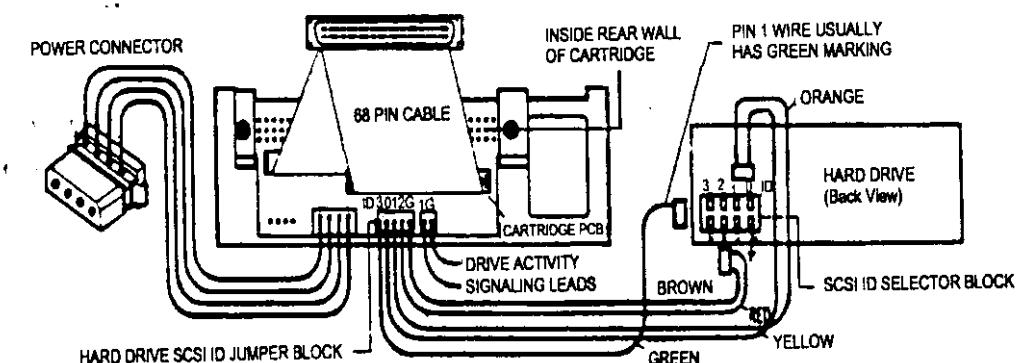

Figure 2.5 Mobile Rack Cabling Connections
- Typical cabling configurations are shown in Figure 2.5.